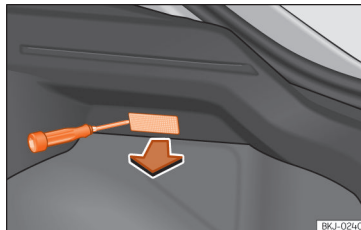

Fig. 65 Boot light.
- Extract the bulb by pressing on its inside edge using the flat side of a screwdriver »» **Fig. 65**.